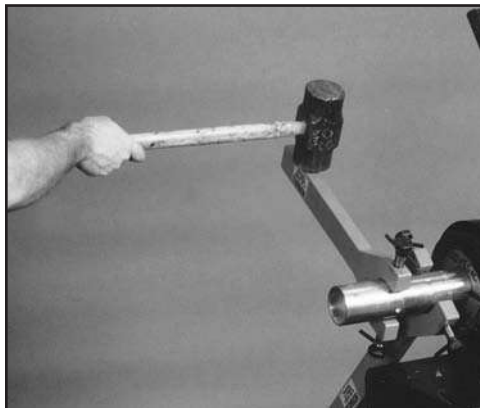

FIG. 70: REMOVE REAR SCREWING
4. Use spanner wrenches and a hammer to loosen the rear screwing (see Fig. 70) (may need to heat to 400° F to liquefy loctite).